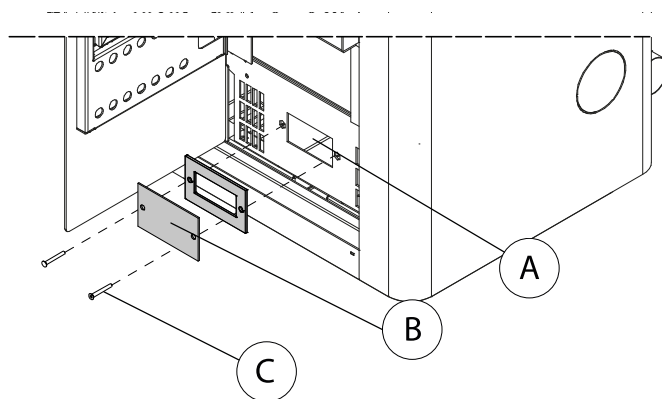

Fig. 6.1.2
- For easy access to the fan (A), just remove the cap (B) and relevant gasket, then turn the two screws (C) (Fig. 6.1.2).